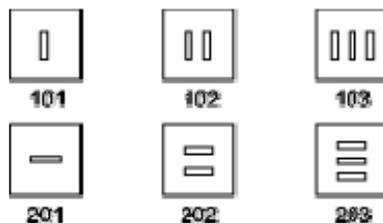

Figure 4. Helicopter Window Markings.
- a. Chemlites taped in aircraft windows. See *Figure 4*. For 53s the window directly aft of the crew chief's door works well. Air Force 53Js have an illuminated marquee to flash the stick number from the window.